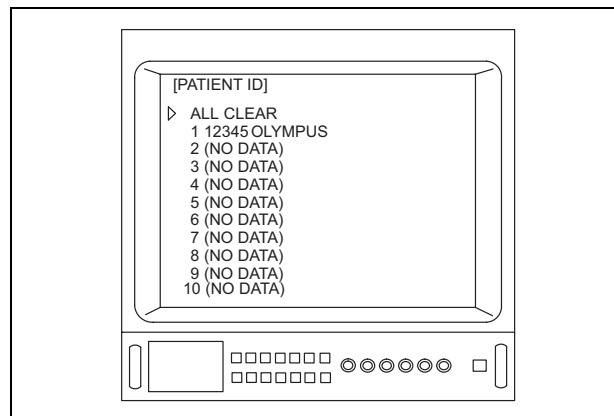

Figure 5.49
4. Depress the menu switches “” or “”, or the “” key on the keyboard to move the arrow “” to “ALL CLEAR” (see Figure 5.49).
Depending upon the OTV-S7V's settings, the menus shown in Figures 5.49, 5.50 and/or 5.51 may appear different from those displayed on the video monitor.